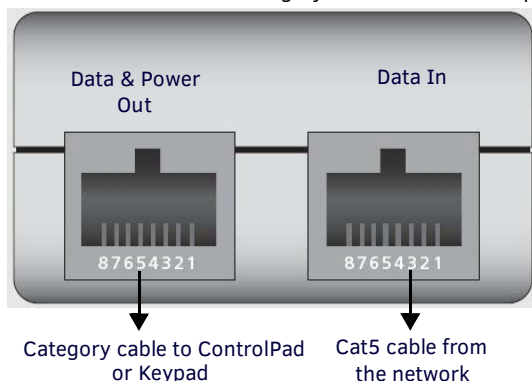

FIG. 6 Connecting to a PoE Injector
2. Connect the switch category cable to the Data In port on the PoE injector (FIG. 6).